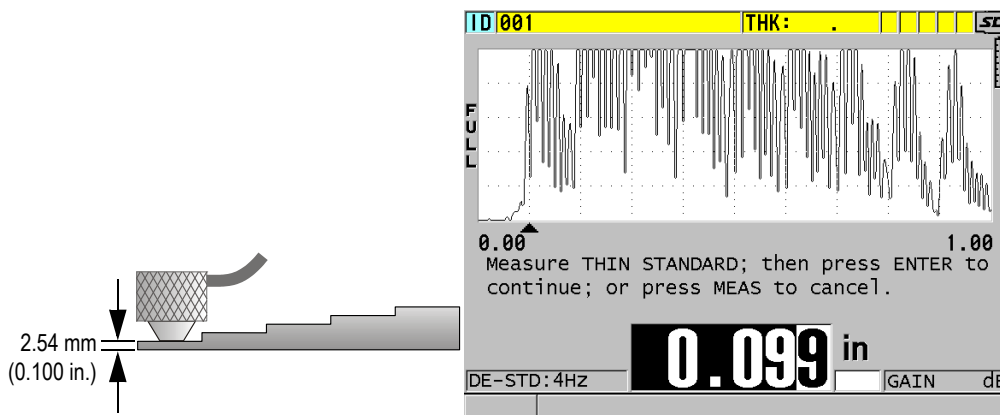

Figure 5-5 Performing the zero calibration on a 5-step test block
2. To perform the zero calibration (see Figure 5-5 on page 75):